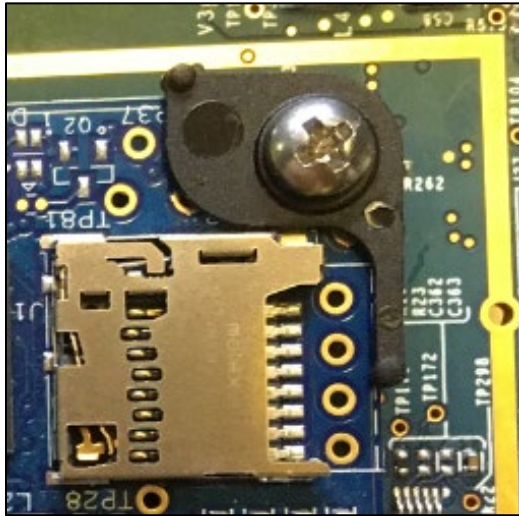

Figure 15 Screw and Locking Lever
2. Carefully unscrew the Phillips screw, and remove the locking lever, setting the screwdriver and screw in a safe place (Figure 15).